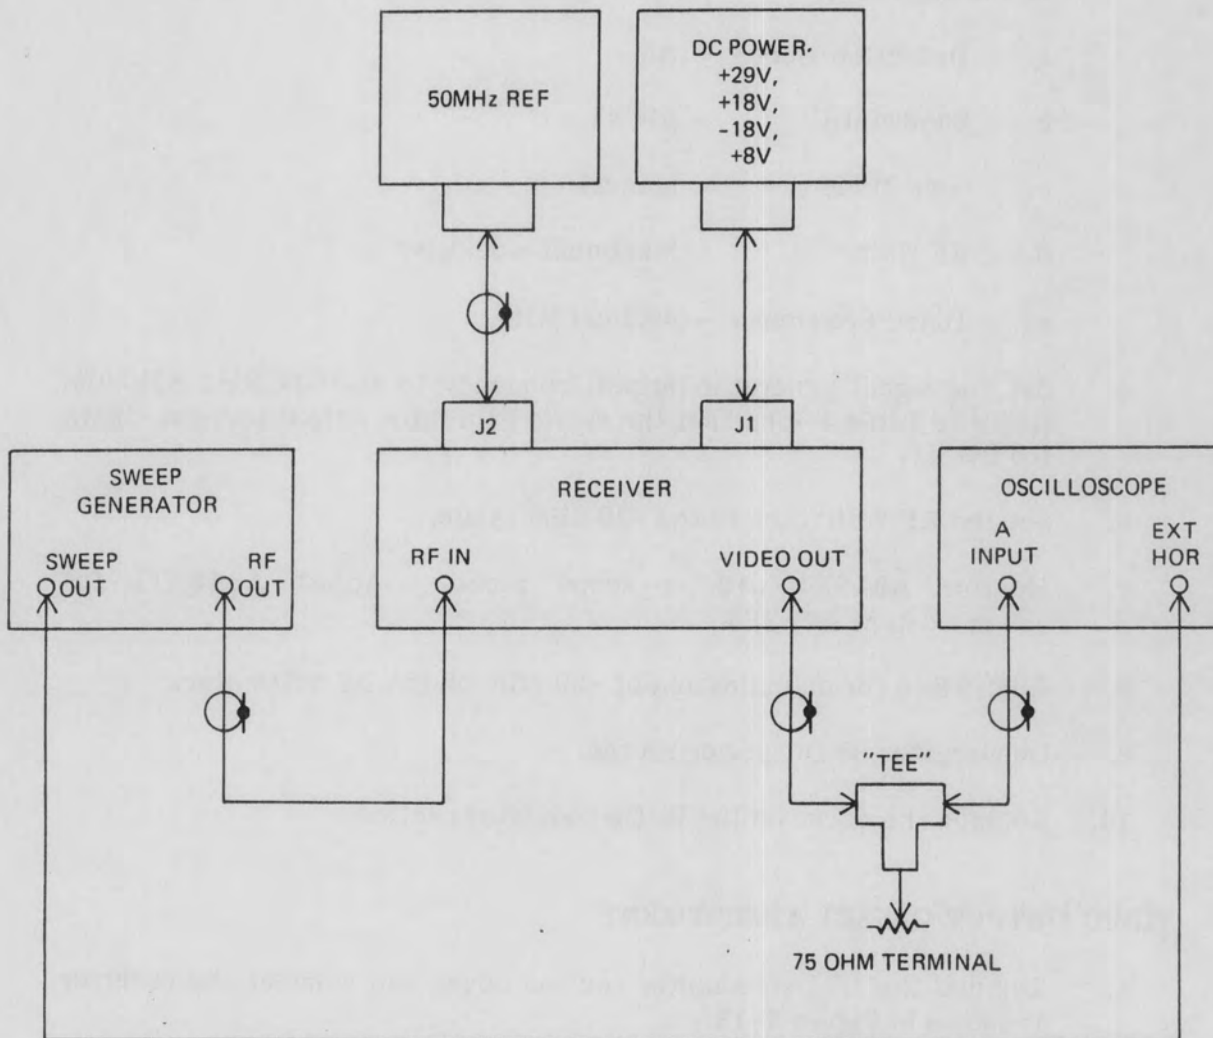

Figure 4-11. Wide/Narrow Filter Alignment Equipment Setup
1. Remove the IF Demodulator cover and connect the receiver as shown in **Figure 4-11**.